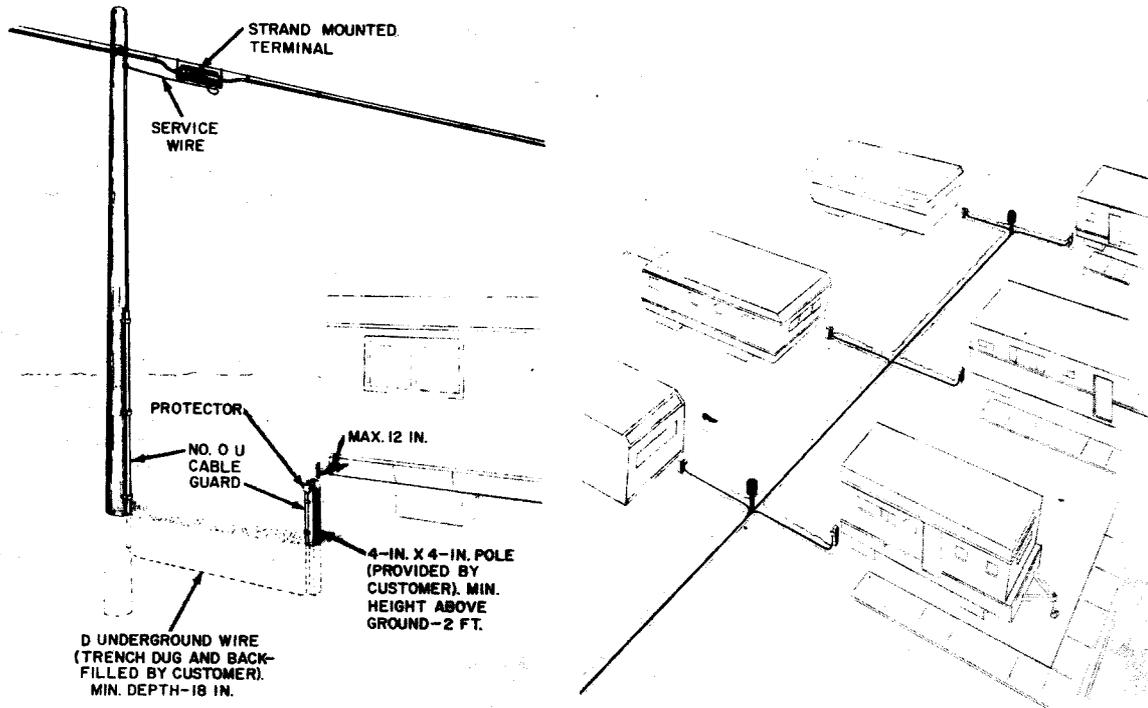

Fig. 1—Typical Buried Service Distribution
**3.01** Service to a mobile home may be by a buried service wire or an aerial drop wire. Typical service connections to trailers are shown in Fig. 1 and 2.